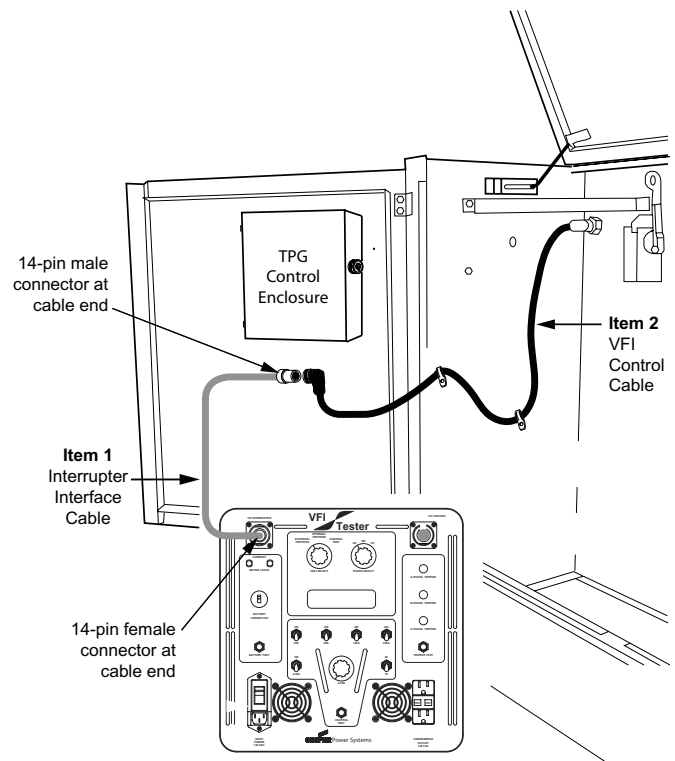

Figure 7.
3. Connect the 14-pin female/14-pin male interrupter interface cable (Item 1) to the VFI Tester at the interrupter port. Refer to Figure 7 for steps 3 through 17.